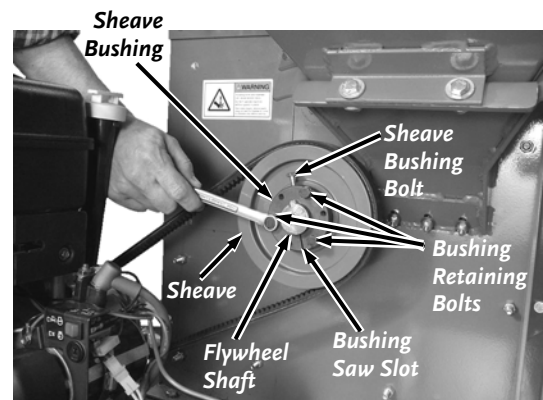

Figure 31
- a) Loosen the Sheave Bushing Bolt with a 7/16" Wrench (**Figure 31**).